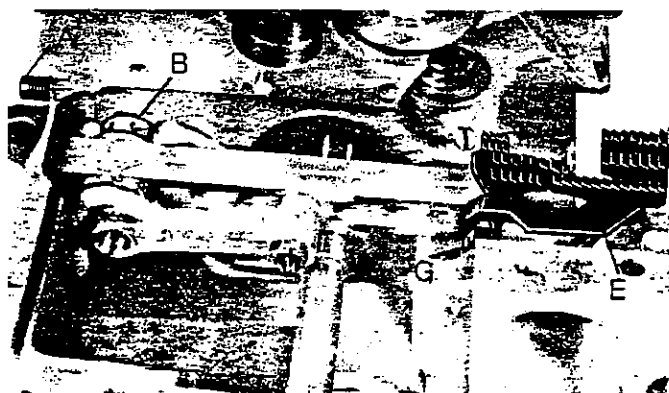

fig. 12
- Mount the front differential feed dog E with screw G but do not tighten it up fully (fig. 12).